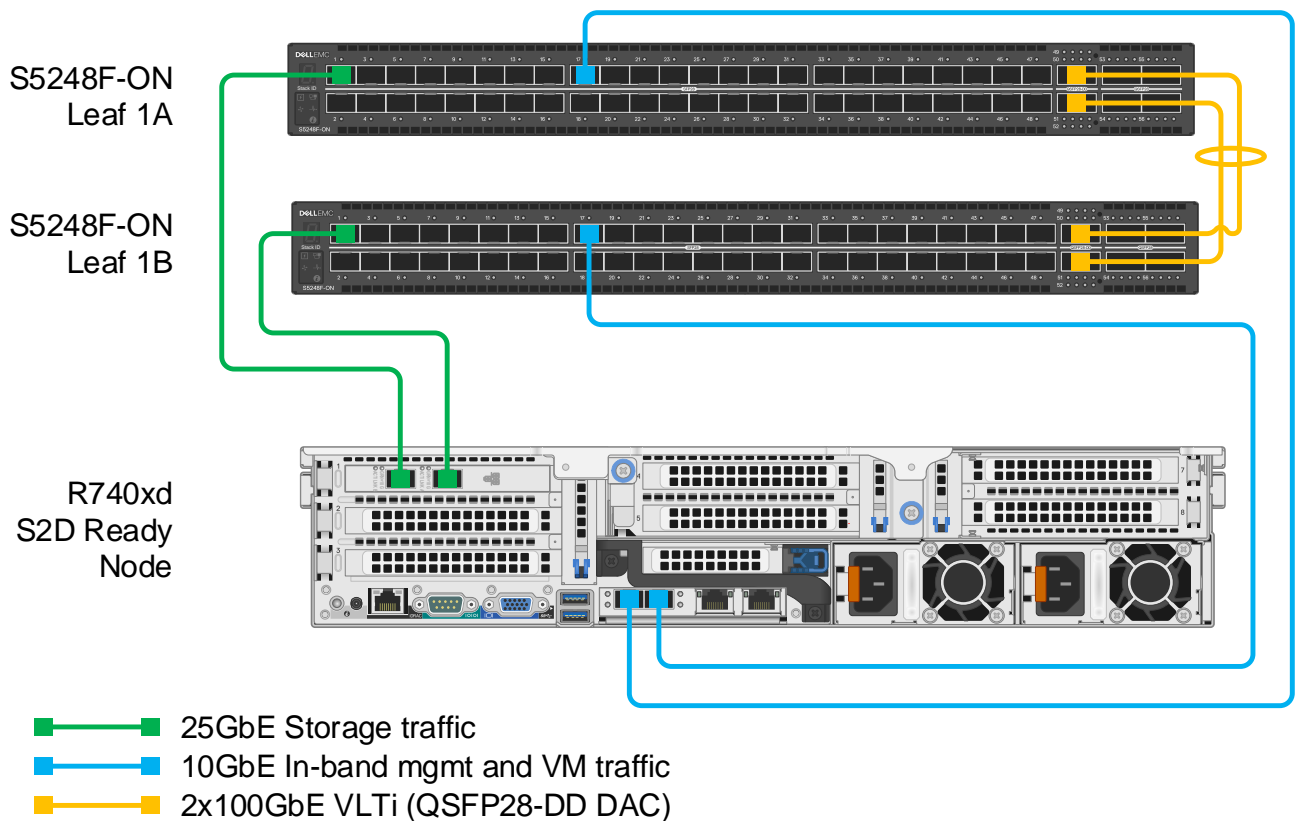

Figure 6 S2D Ready Node with non-converged connections
**Note:** All examples in this document use the non-converged network configuration shown in Figure 6.